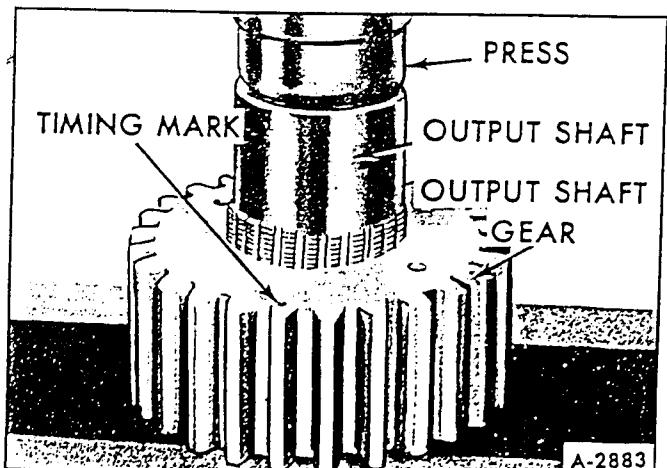

Figure 13 - Removing Output Shaft from Gear (Typical)
7. To remove pinion gear from output shaft, remove roll pin and gear retaining pin, then carefully press output shaft (pinion) gear from shaft (fig. 13).